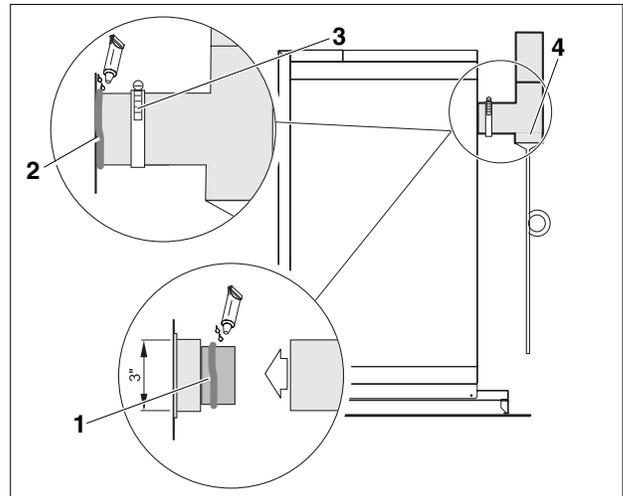

Fig. 14 Condensate drain
- Install a condensate drain at the rear of the boiler (Fig. 14).
- Place a ¼" wide silicone bead (Fig. 14, **Item. 1**) on the boiler exhaust collar. (Use silicone with a 500 F temperature rating, G.E. 106 or equivalent).
- Slide condensate drain on exhaust collar (Fig. 14, **Item. 4**) and secure with the furnished pipe clamp (Fig. 14, **Item. 3**). (Heat-Fab condensate drain will fit around outer collar, other condensate drains fit on inner collar.)
- Place a silicone bead around the clamp (Fig. 14, **Item. 2**) and spread out to ensure an air tight seal.